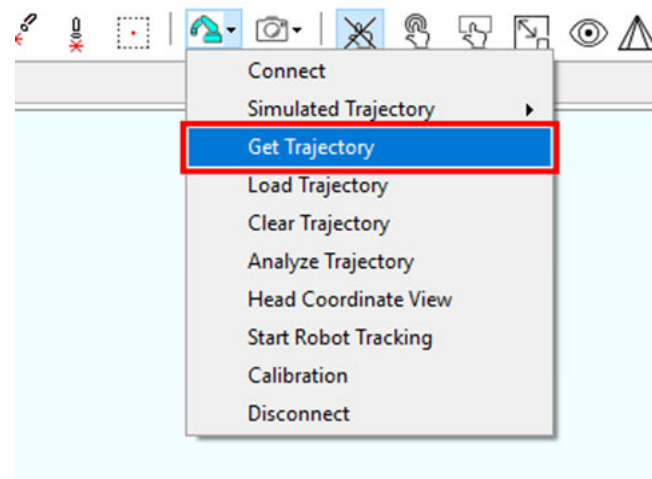

Figure 304: Get Trajectory
2. Click "Get Trajectory" from the robot menu. See Figure 304 (below).